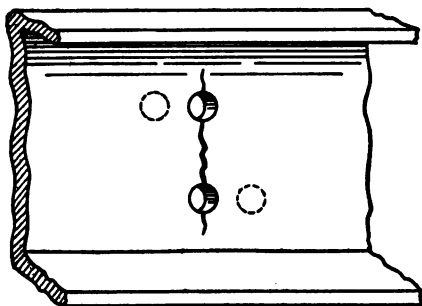

Fig. 52. Reboring Cracked Steel Channel
**Fracture.** Many a frame breaks because too much metal was drilled out at one place. Fig. 52 shows a case of this kind. The two holes were drilled one above the other for the attachment